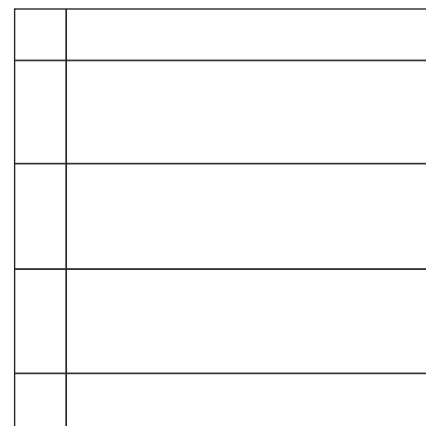

Figure 4: Mark Tube Locations
- Mark the wall for tube placement. Refer to **Figure 4**. A horizontal line represents the bottom of a tube, and a vertical line represents the end of a tube or the side of a display.